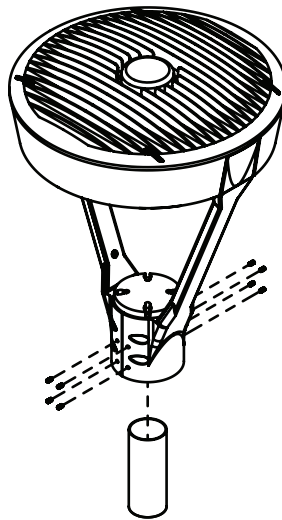

Fig. 2
3. Position fixture on post top tenon or pipe as seen in **Figure 2** and tighten down all 8 Allen head set screws to 72in-lbs (6ft-lbs).